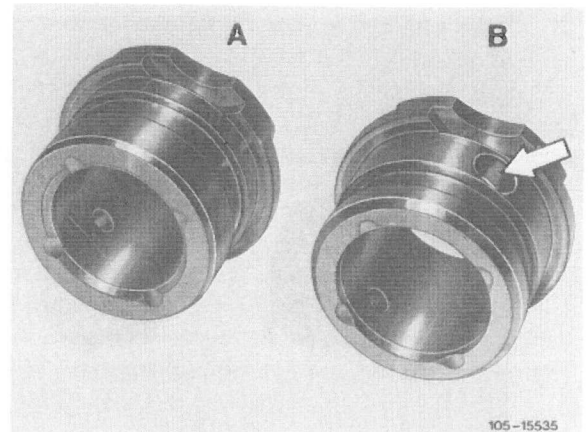

Fig. 192
The injection pump is provided with the oil required for lubrication via intermediate gear shaft. For this purpose, an additional oil bore (Fig. 192 and 193) has been made in bearing bushing (102) and in intermediate gear shaft (104).